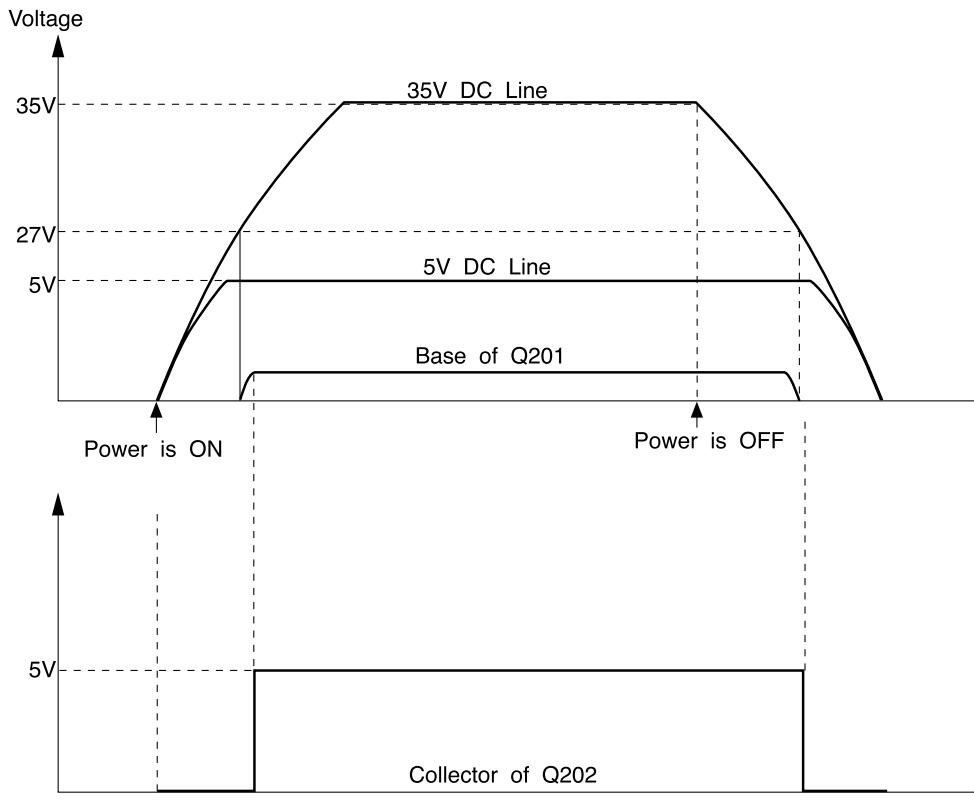

Fig.1-2
- Fig.1-2 shows the waveforms in each circuit when power is ON and OFF.